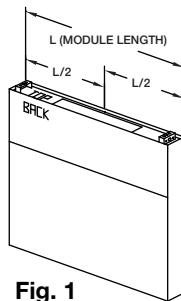

Fig. 1
2. If the back supply plenum is to have one opening, cut the opening such that it is centered at $L/2$ from the plenum end. (Fig. 1)